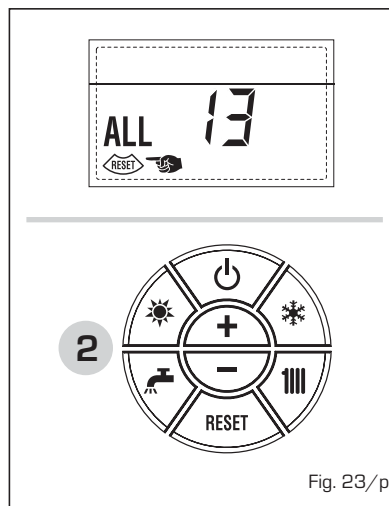

Fig. 23/p
- "ALL 14" EXHAUST FUMES PROBE ERROR (fig. 23/q)